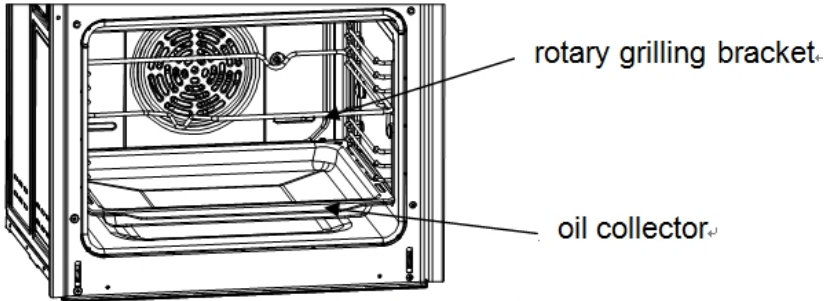

Figure4.
2. Insert the Rotary Grilling Bracket into oven layer 4 (figure 4). Note the location of the Rotary Grilling Bracket can only be inserted into layer 4.